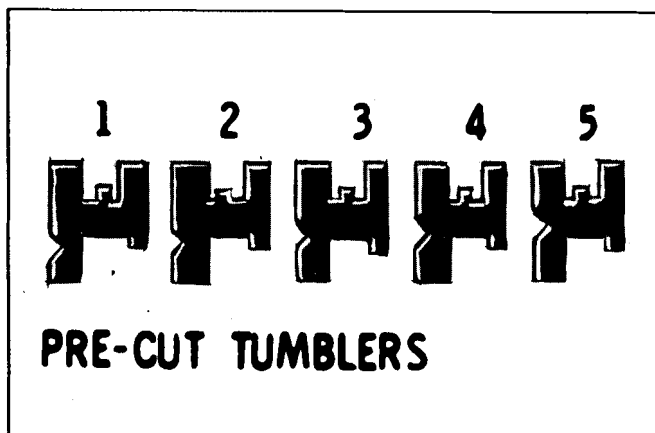

Fig. 0-16 Pre-Cut Tumblers
2. Insert spring in each round cavity of each tumbler lock between slots (Figs. 0-16 and 0-17).